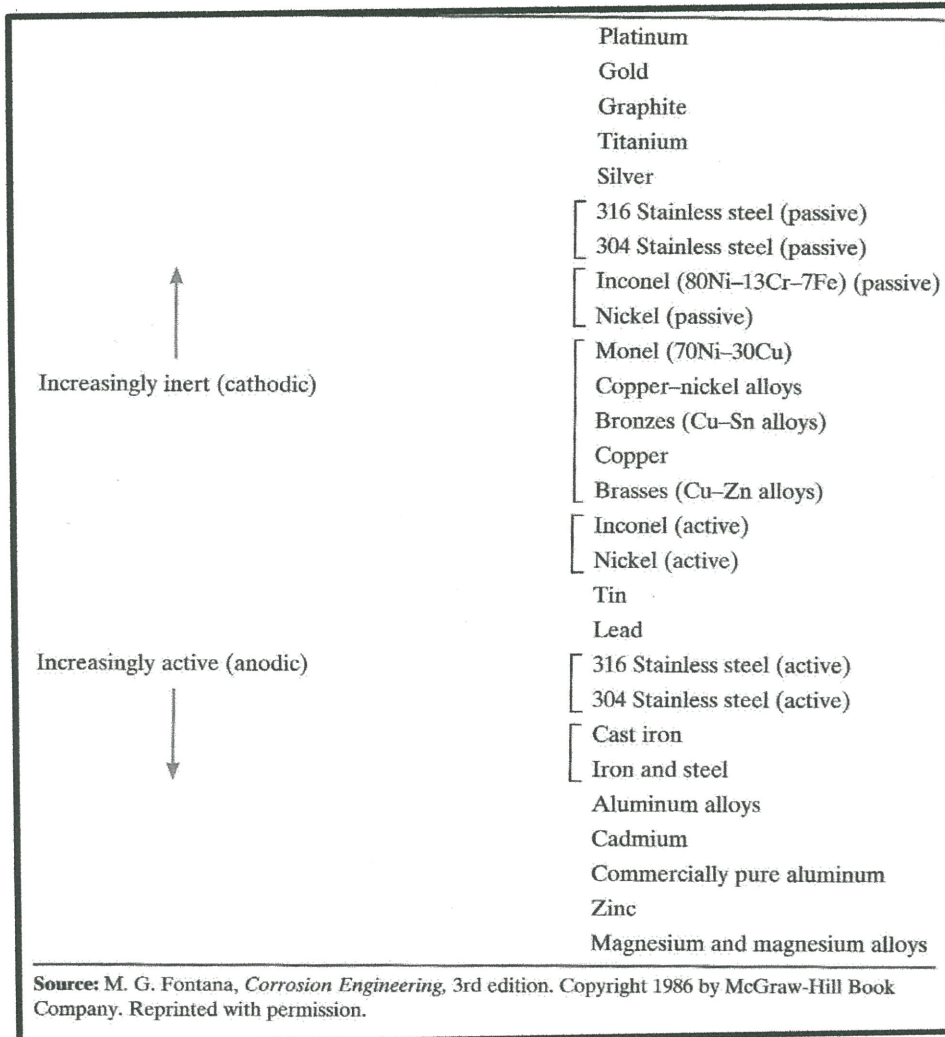

FIGURE Q4 (c): Galvanic Series
- (iv) Name **TWO (2)** common types of alloy that passivate (2 marks)
- (ii) Propose **THREE (3)** of the possible mechanism that account for inhibitor effectiveness. (6 marks)
- (c) For the following pairs of alloys that are coupled in seawater, predict the possibility of corrosion; if corrosion is probable, indicate which metal/alloy will corrode. Refer **FIGURE Q4 (c)** (if applicable).